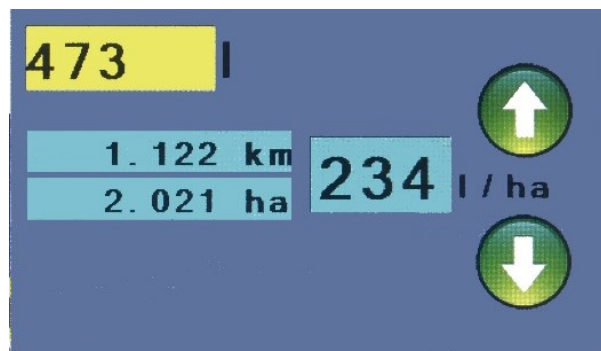

Figure 13
- AG-TRONIK at the same time, when we adjust HD with pressing  and  icons, calculates what area and distance can still be sprayed, depending on the amount of chemical preparation in the tank (Figure 13).